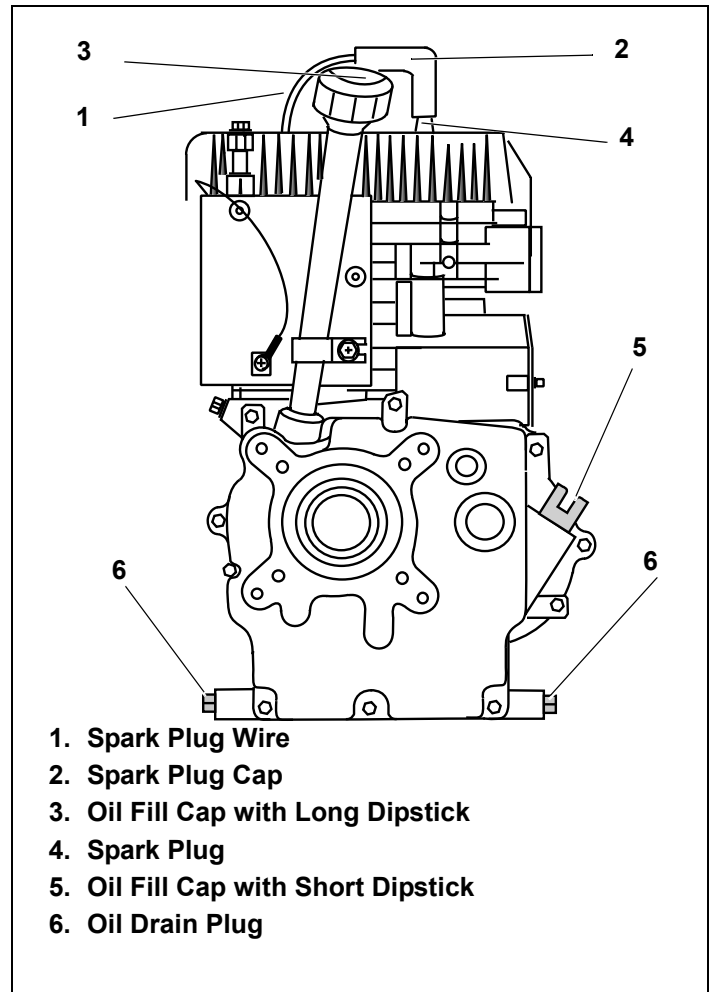

Figure 30. Engine Components
- Disconnect spark plug wire and keep it away from spark plug. See "G. Avoid Accidental Starts" instructions on page 2. See Figure 30.
1. Be sure you find the correct drain plug location, if provided. See Figure 30.
4. Clean area around oil drain plug. See Figure 30.
6. Remove oil drain plug and drain oil. See Figure 30.